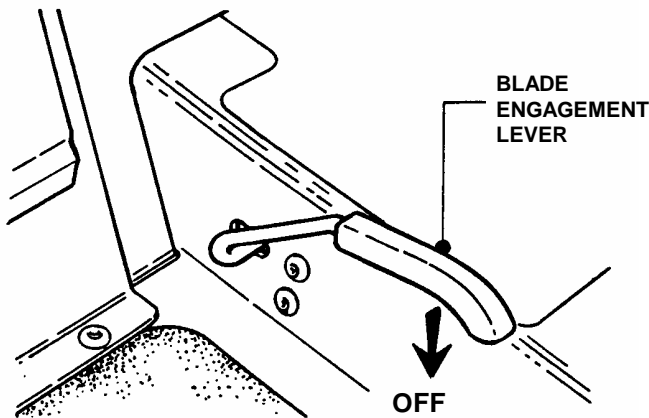

FIGURE 2.11
1. Stop mower blade by moving blade engagement lever to the "OFF" position. See Figure 2.11.